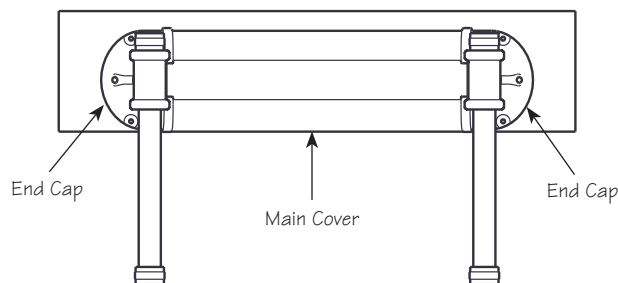

Figure 3
- 7. Install the aluminum cover*** – Hold the two end caps in place over the ends of the main cover as shown in **Figure 3**. The flange on the end caps should overlap the main cover by their width (approximately $\frac{1}{4}$ "). With a third hand (supplied by a friend or family member), mark the four screw hole locations onto the front jaw. Put the end caps and main cover aside and drill $\frac{5}{32}$ " pilot holes for the mounting screws, $\frac{3}{4}$ " to 1" deep. Secure one end cap with two screws, but do not tighten them fully. Slip one end of the main cover under this end cap, followed by holding the other end cap over the opposite end of the main cover. Install the remaining two screws and tighten all.